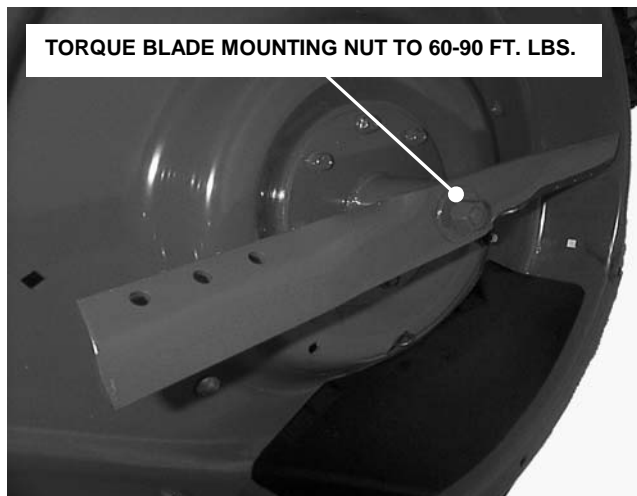

FIGURE 3.3
3. Check torque of blade mounting nut. Torque nut to 60 to 90 ft. lbs. See Figure 3.3.